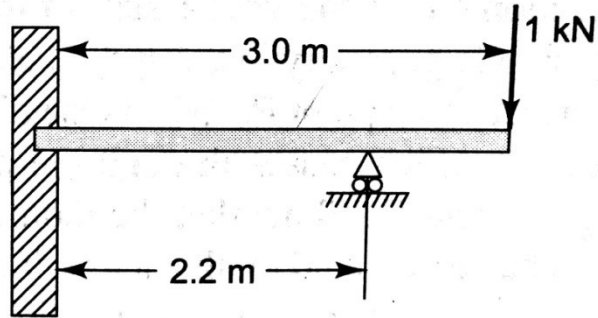

Figure 1
1. Find the reactive forces and the moment at the wall for the cantilever beam supported as shown in figure 1. M_A and R_2 are the reactions at the fixed support and R_1 is the reaction at the roller support.